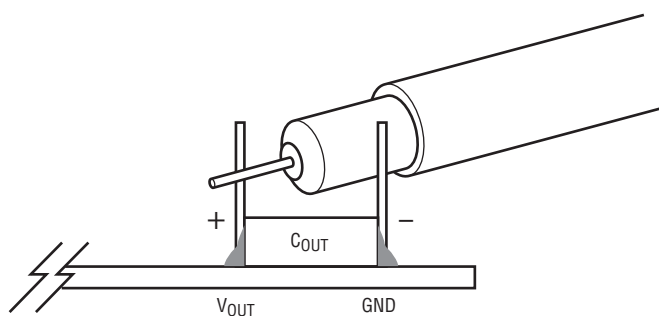

Figure 2. Scope Probe Placement for Measuring Input or Output Voltage Ripple
5. Once the input and output voltages are properly established, adjust the input voltage between 4.5V and 20V and the loads within the operating range of 0A to 4A max per channel. Observe the output voltage regulation, output voltage ripples, switch node waveform, load transient response and other parameters. Refer to Figure 2 for proper output voltage ripple measurement.
NOTE 1: To measure the input/output voltage ripple properly, do not use the long ground lead on the oscilloscope probe. See Figure 2 for the proper scope